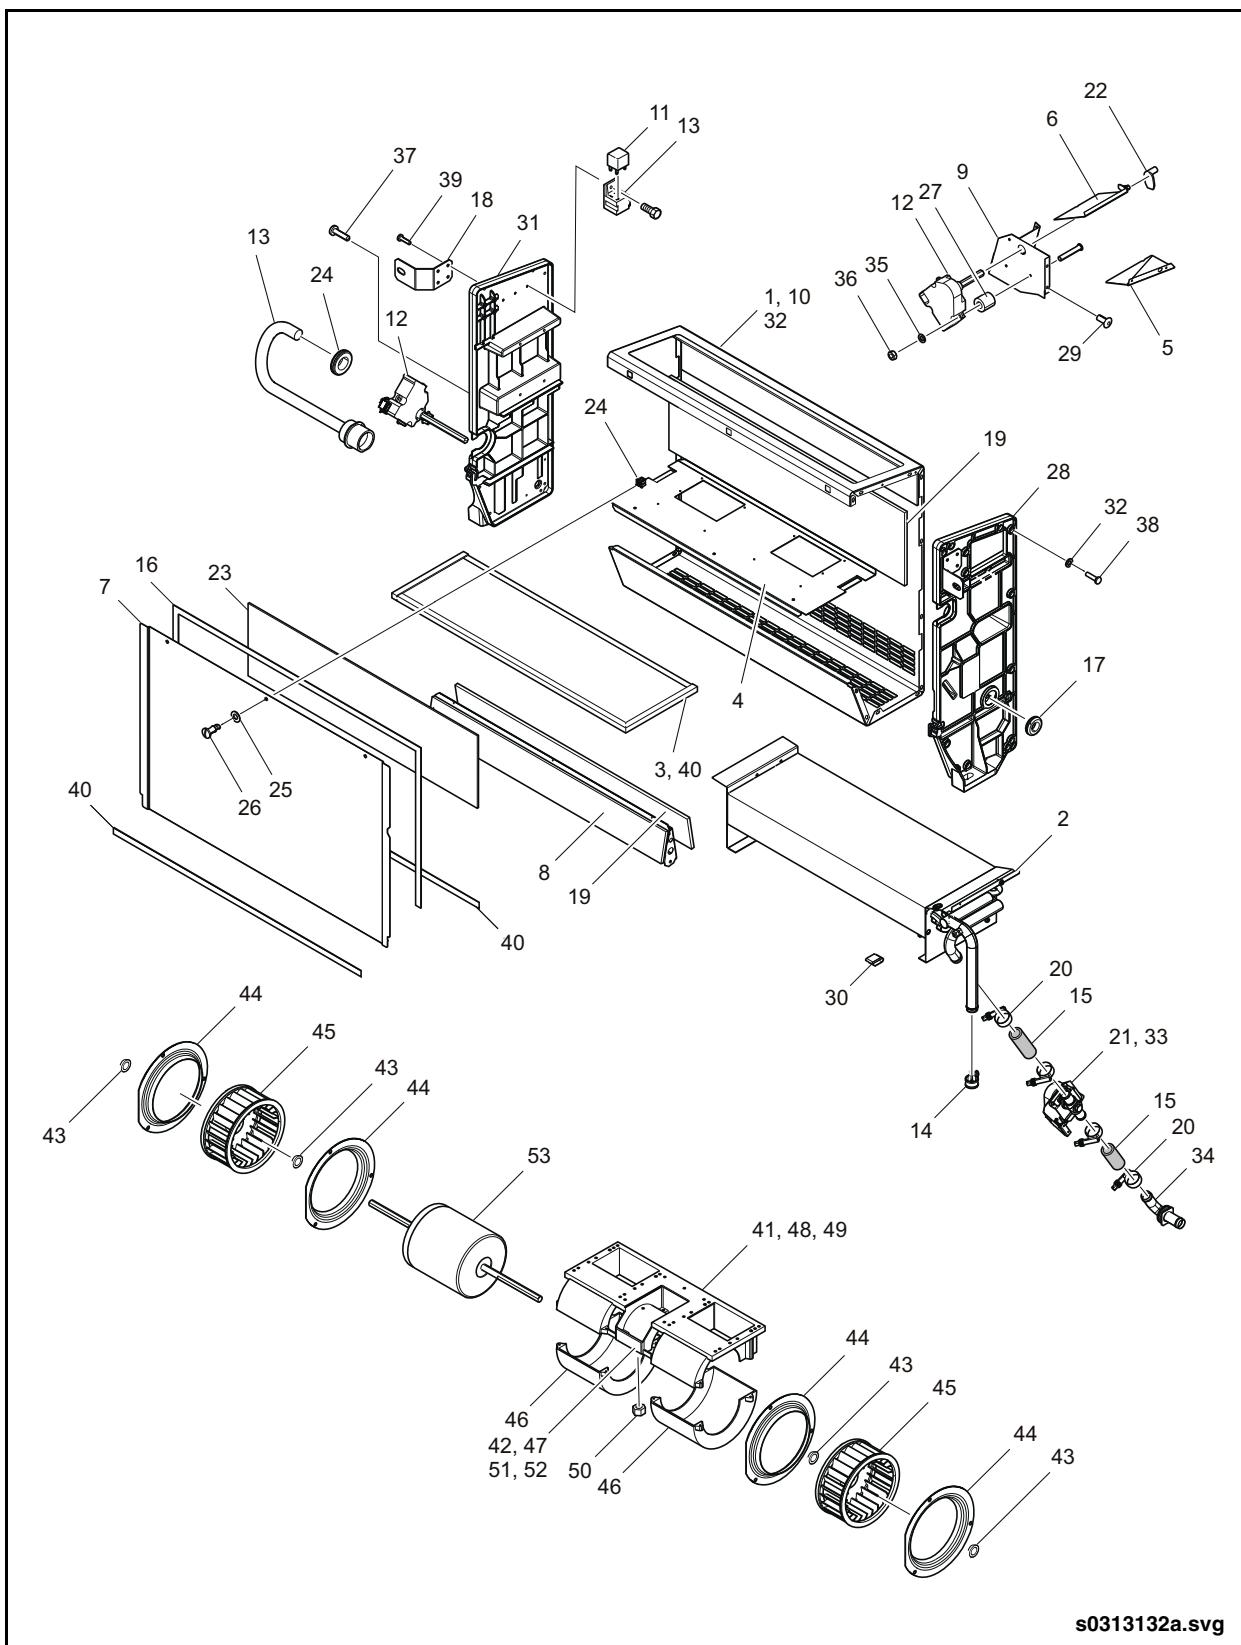

Fig. 10-8: Heater/Defroster Assembly
2. Open front defroster access door and remove defroster access plate. See "Fig. 10-8: Heater/Defroster Assembly" on page 28.